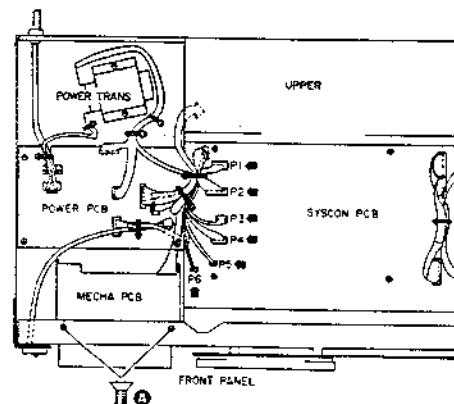

Fig. 3-5
- 2) Remove the six connectors P1-P6 from the SYSCON PCB. Remove mechanism block securing screws ④. (Refer to Fig. 3-5)